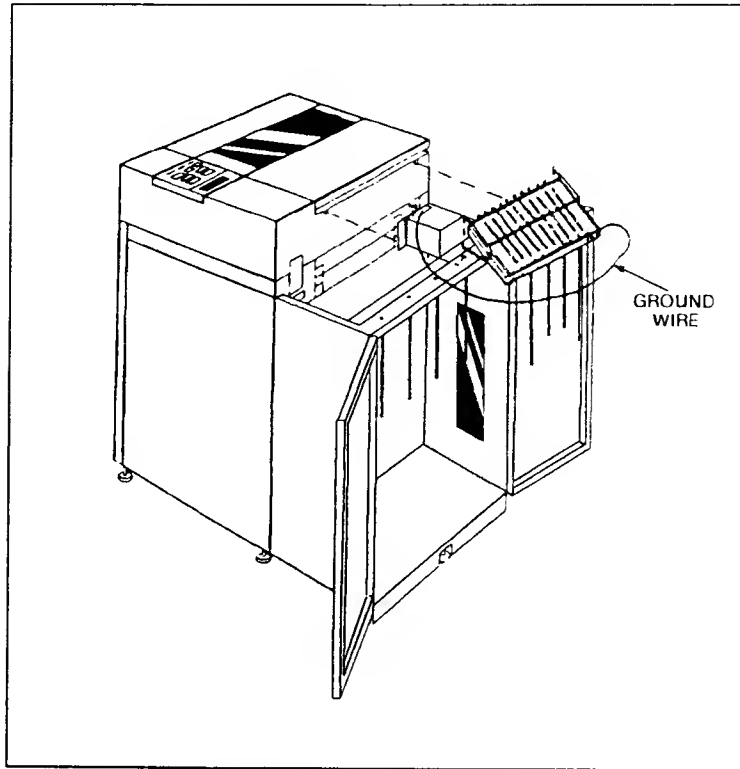

Figure 2-16. Attaching Wire Form
- e. Attach the wire form. Hook the wire form into the holes on the top cover (Figure 2-16). Make sure the four chains hang freely.